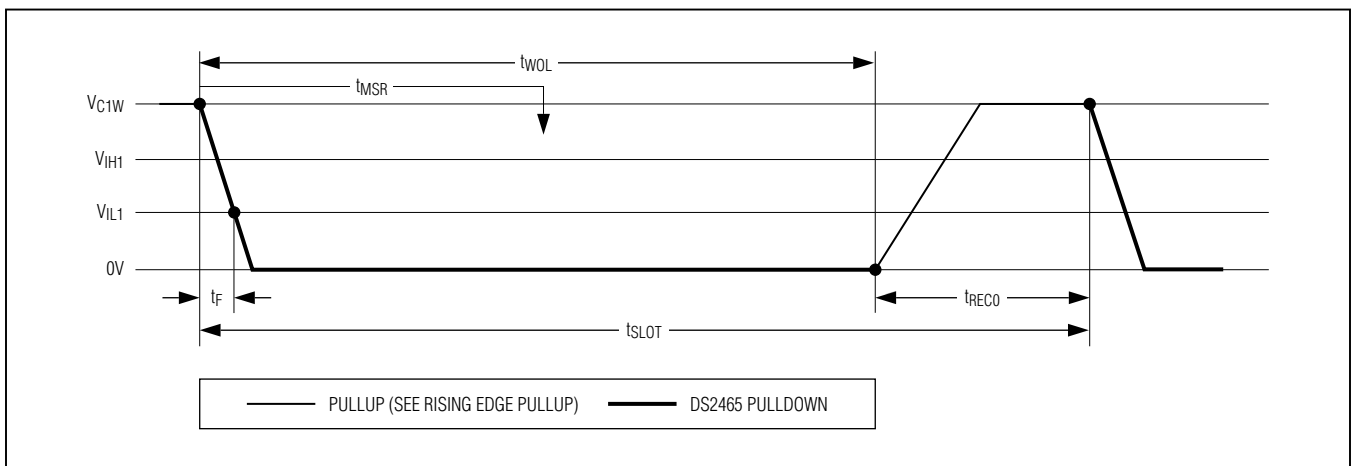
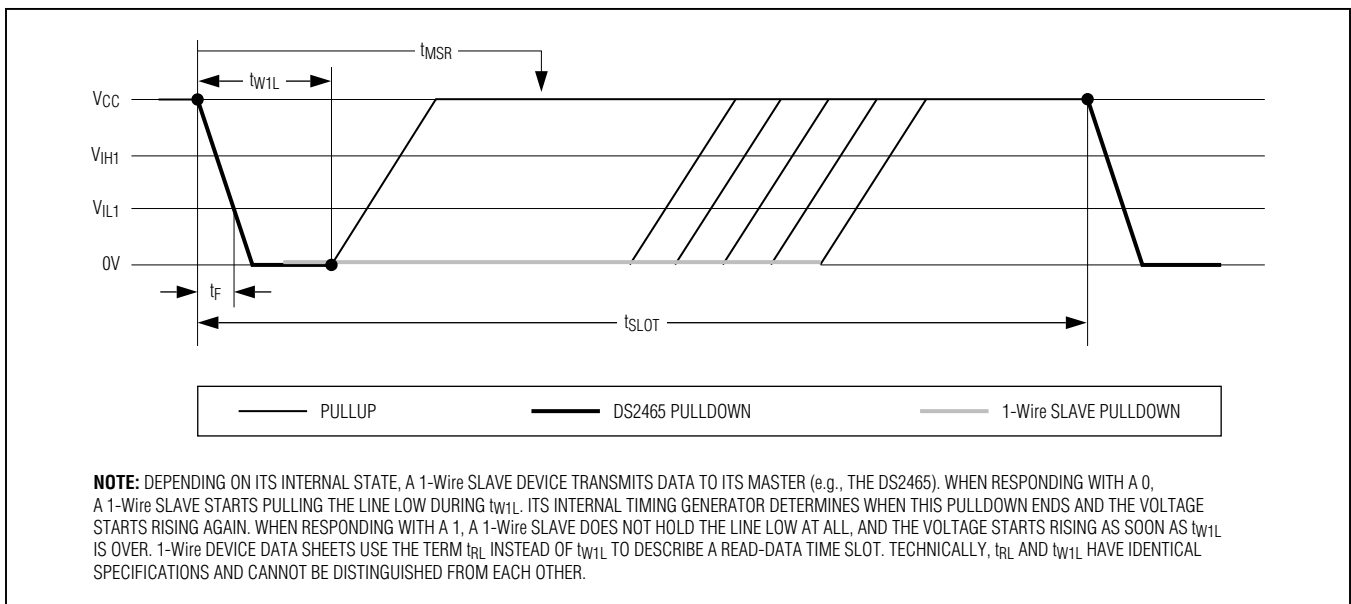

Figure 6. Write-Zero Time Slot
Figure 7. Write-One and Read-Data Time Slot
**Bit 7: Bit value (V).** This bit specifies the type of time slot to be generated. If  $V = 0$ , a write-zero time slot (Figure 6) is generated. If  $V = 1$ , a write-one time slot (Figure 7) is generated, which also functions as a read-data time slot.